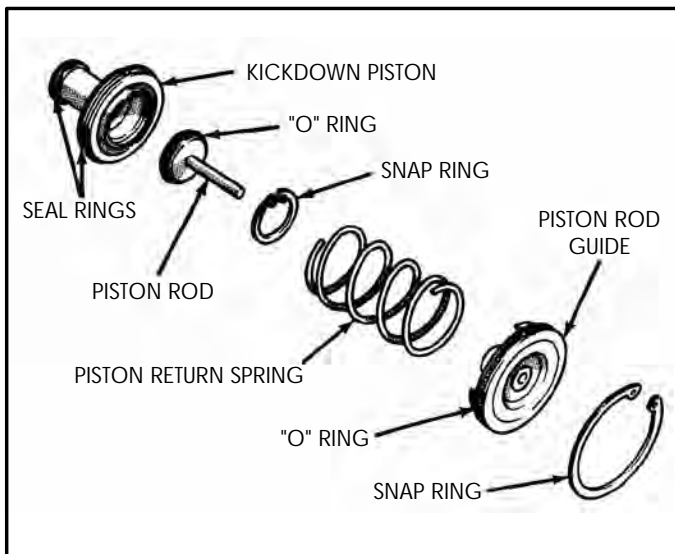

Figure 209
1. Install new seal rings on kickdown piston, as shown in Figure 209.
2. Install new "O" ring on piston rod, as shown in Figure 209, and lube with Trans-Jel®.
3. Install piston rod into servo piston and install snap ring, as shown in Figure 209.
5. Install new "O" ring on the piston rod guide, as shown in Figure 209, and lubricate with small amount of Trans-Jel®.